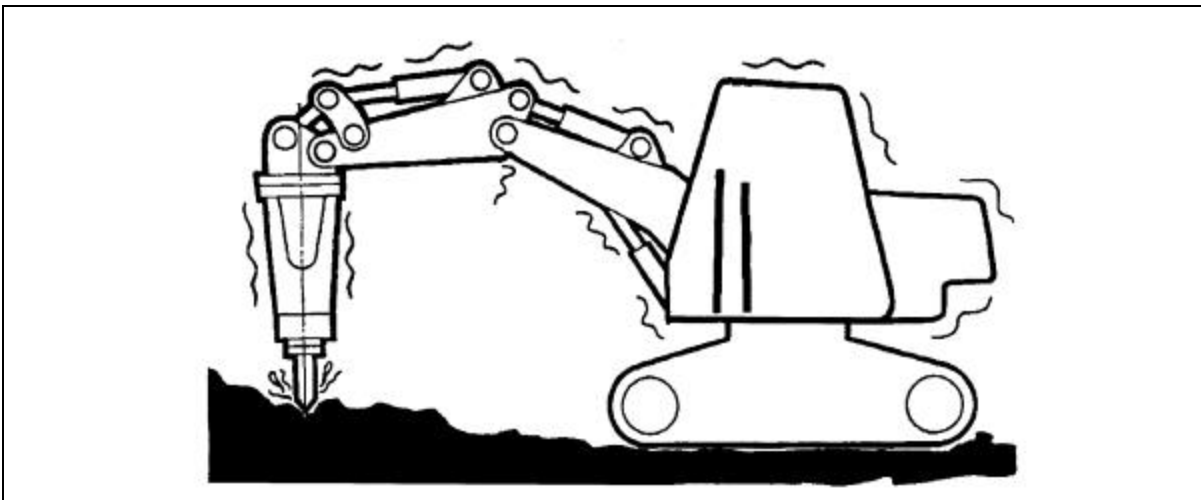

Figure 02-04: Insufficient Downward Pressure Results in Vibrations
- d) If the hammer is in the correct position, and the hammer and case are vibrating (Figure 02-04), the downward pressure from the carrier is insufficient. If exerting further pressure from the carrier does not solve the problem, it may be that internal hydraulic leaks from the rams or valves may not be allowing the carrier to exert the correct amount of pressure. In this case, replace the carrier cylinder seals and/or check the control valve seals.